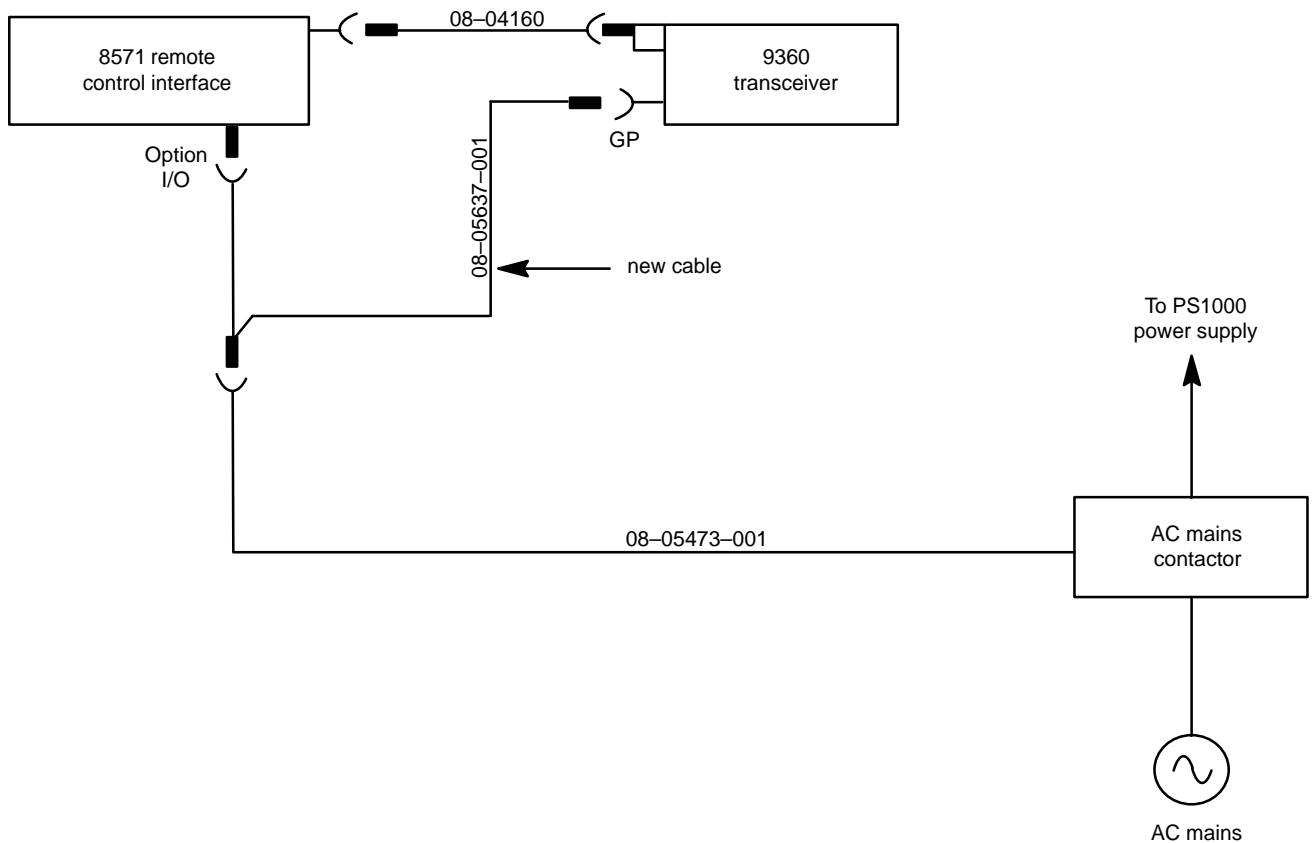

Figure 1: Wiring diagram for the AC contactor
- Re-route the power supply line by connecting the cable provided (part number 08–05637–001) to the GP port of the transceiver (see Figure 1).
To re-route the power supply line from the GP port of the transceiver, a special purpose cable (part number 08-05637-001) must be connected (see Figure 1). The implementation is also shown in system drawing 03-00987 Issue C.